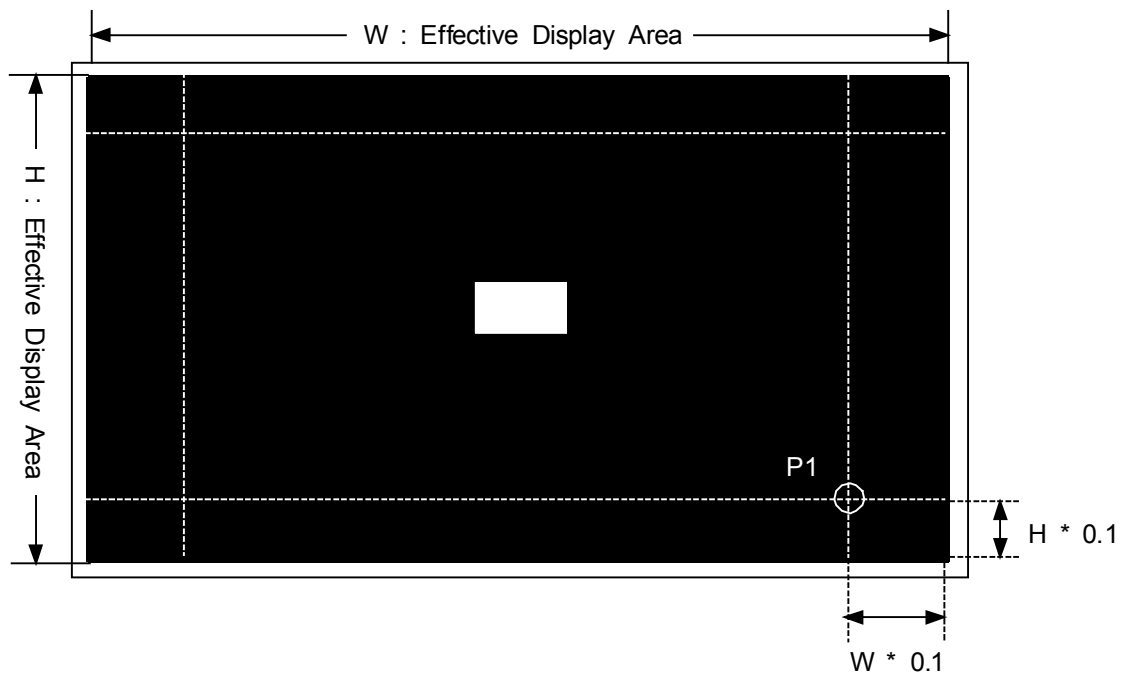

Figure-4. Measurement point
1. For mass production test purposes, it is recommended to measure just 1 point, P1 of Figure.-4 on display pattern of Figure.-3.
(5) Ambient Light : Dark Room (<2 lux)